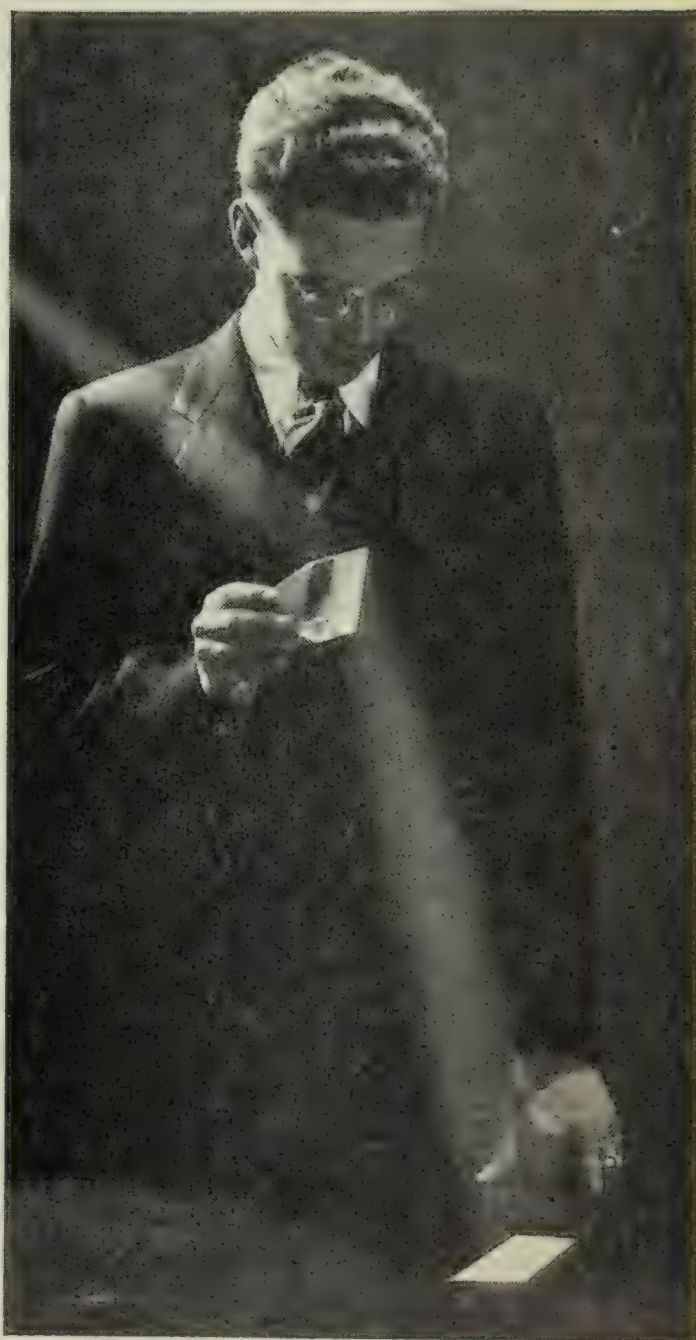

FIG. 481. How a prism bends light rays (Photo from *Nature Magazine*)
5. Study Figures 481 and 482. Explain how the glass in Figure 445 can show what is on the other side of the hill and yet not be a mirror.